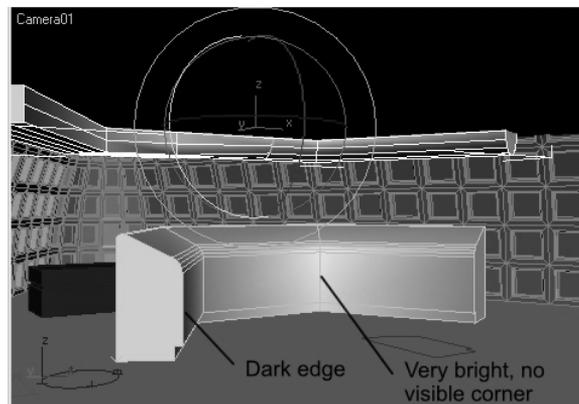

FIGURE 9.29 The duct and the console are efficient, but have some strange shading on the surfaces.
11. Exit Isolation mode. You now have an efficient console and duct, but there is some strange shading (see Figure 9.29). You take care of that in Exercise 9.7.